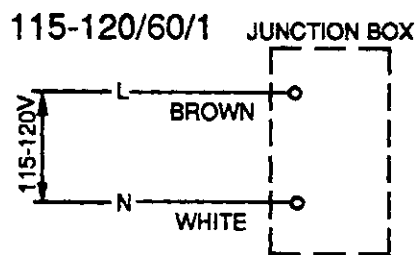

Fig. 2
- The white lead must be connected to the neutral conductor of the power source. Miswiring results in severe damage to the ice dispensing bin. See Fig. 2.
(See Fig. 2 below)